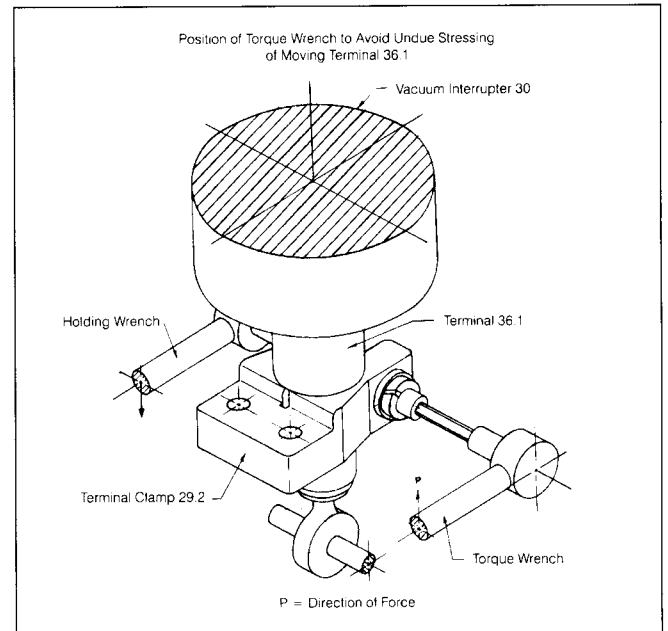

Figure 42. Illustration Showing Required Technique for Fastening Terminal Clamp Hardware
- 1.2 Loosen the lateral bolt(s) on terminal clamp (29.2). Refer to **Figure 42** and employ the illustrated procedure to loosen clamp hardware. (6 or 8mm hex key and 13 or 16mm socket).
2.7 Raise terminal clamp (29.2) against the spacer (29.3) on the movable terminal of the vacuum tube (36.1) and position the interrupter (30) so that its groove faces the connecting surface of flexible strap (29.1). Refer to **Figure 42** and employ the technique illustrated to fasten the terminal clamp. Note opposing wrenches. Tighten the bolt(s) of the terminal clamp to a torque of 40 Nm (30 ft. lbs.), taking care to see that the terminal of the interrupter is not subjected to excessive bending movement.